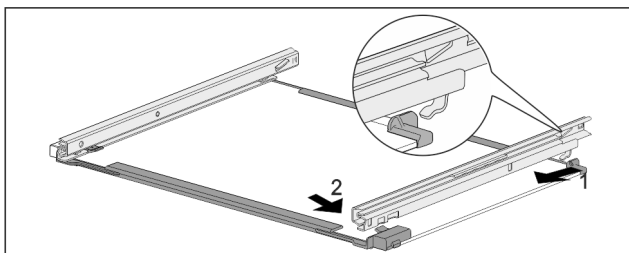

Fig. 191 Glass shelf with rails
- ▶ Hook in rail at the back. Fig. 191 (1)
- ▶ Hook in rail at the front. Fig. 191 (2)